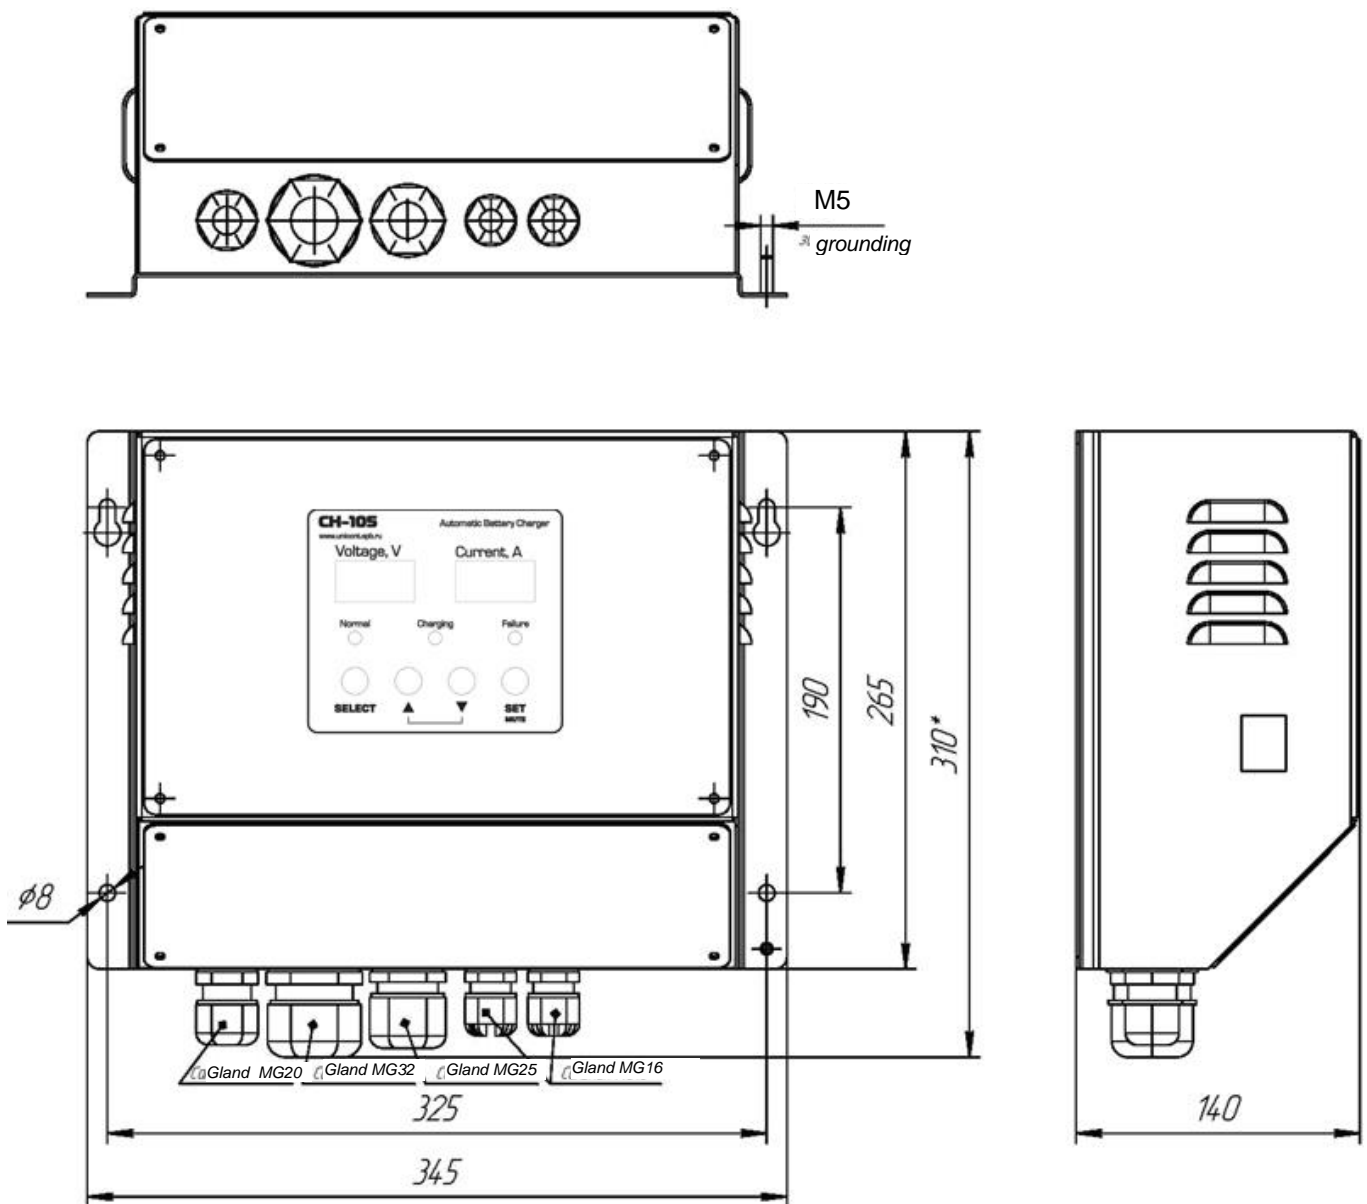

Figure 2 Overall dimensions and installation diagram of ABC
2. Properly secure the case of battery charger on the vertical bulkhead with the help of bolts or self-tapping screws. By the effort of hand check for reliability of its fastening. The information on installation and overall dimensions of ABC are specified in installation diagram of this OM (refer to Figure 2);
3. Ground ABC case to the common grounding bus. The grounding bolt is located from the right side in the lower part of ABC case (Figure 2).